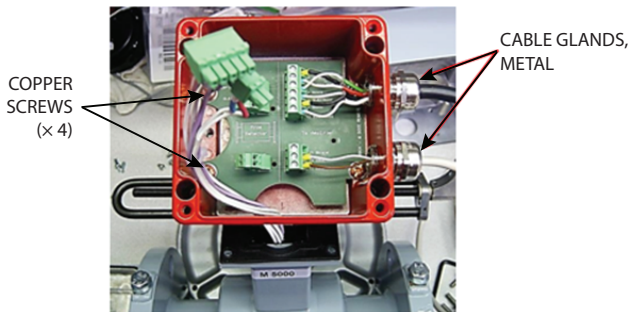

Figure 3: M5000 junction box
4. Attach the PCB to the inside of the junction box with four (4) copper screws. See Figure 3.
5. Thread two (2) metal cable glands into the junction box. Torque the cable gland nuts to 5.2 Nm. See Figure 3.